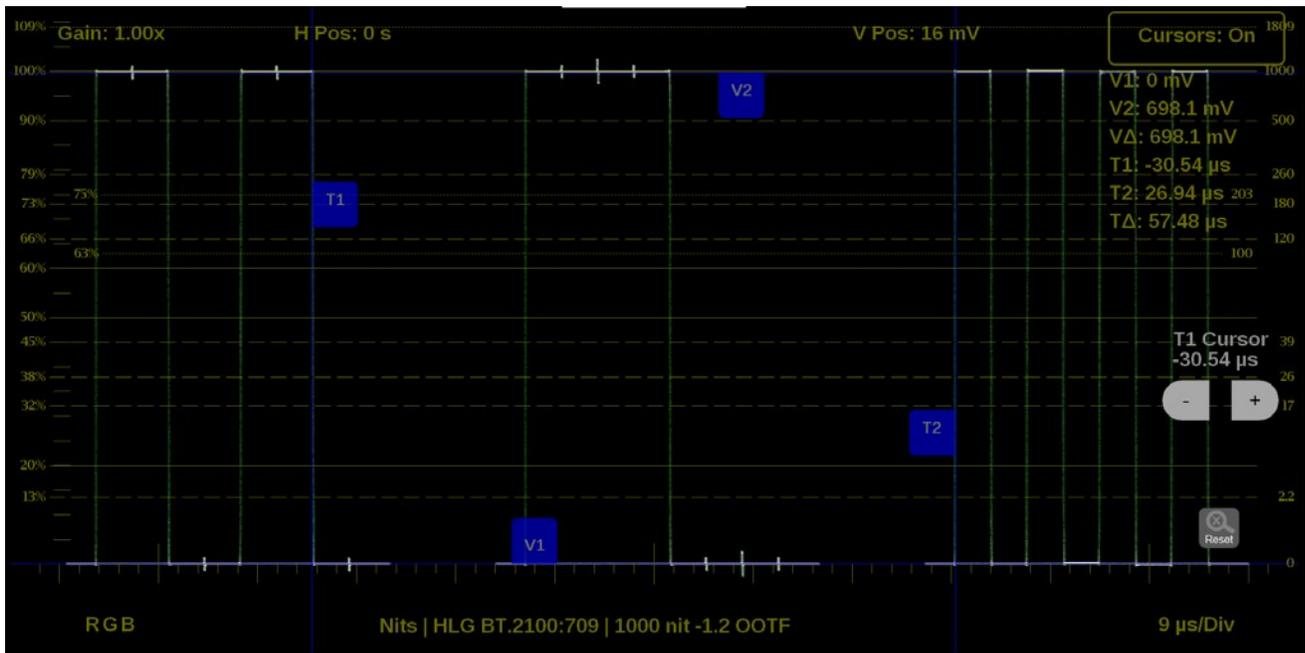

Figure 88: Waveform on-screen tools – time and voltage cursor values and deltas
1. Select the **Cursors** button to show the time and voltage cursor options. (See Figure 88.)